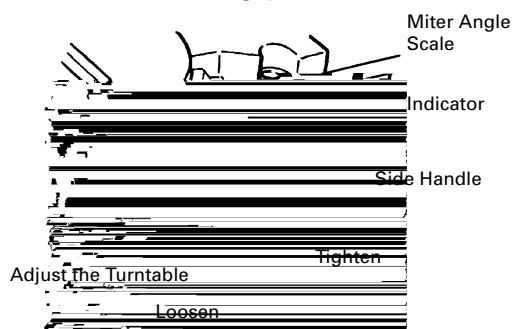

Fig. 16
- (1) Loosen the side handle and adjust the turntable until the indicator aligns with the desired setting on the miter angle scale (Fig. 16).
- (2) Re-tighten the side handle to secure the turntable in the desired position.